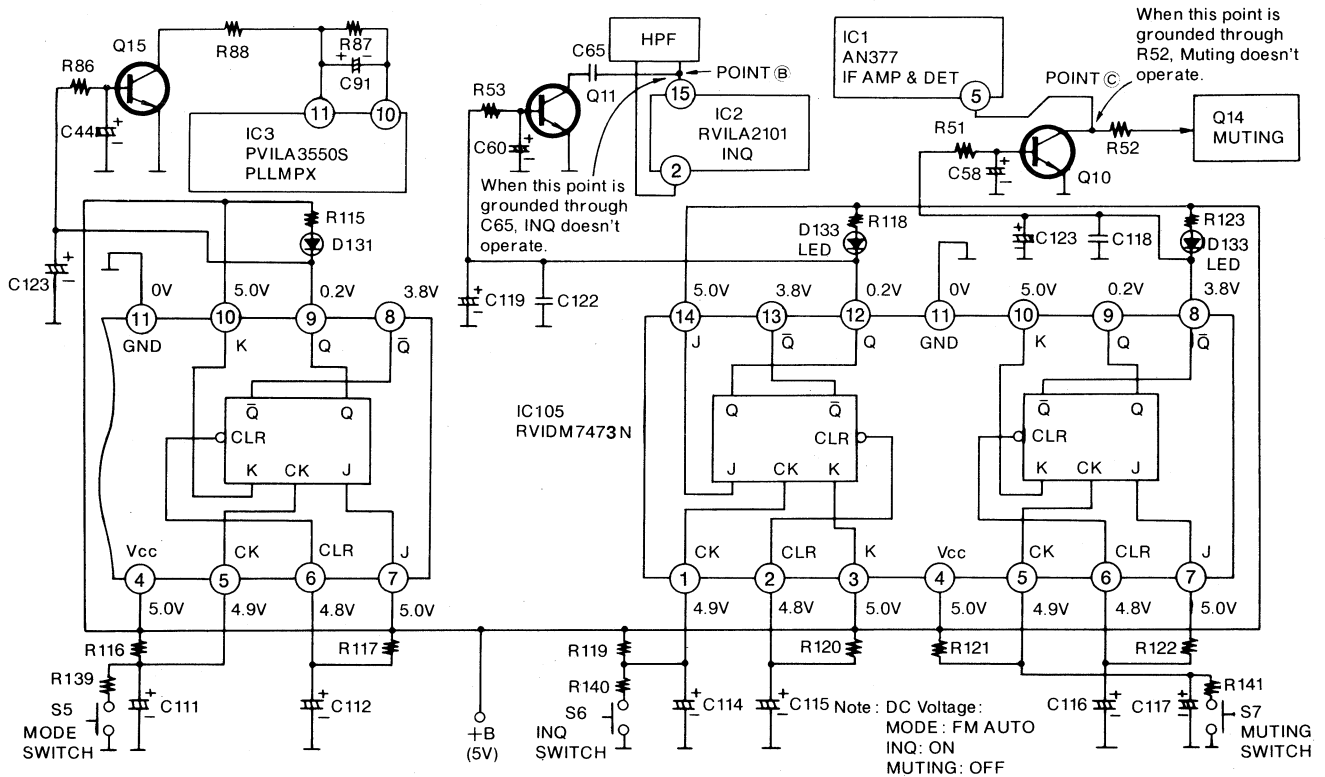

Fig. 29
2. Because Q10 is ON, the muting control voltage from IC1 [point © in figure 29] is forced to decline, preventing normal